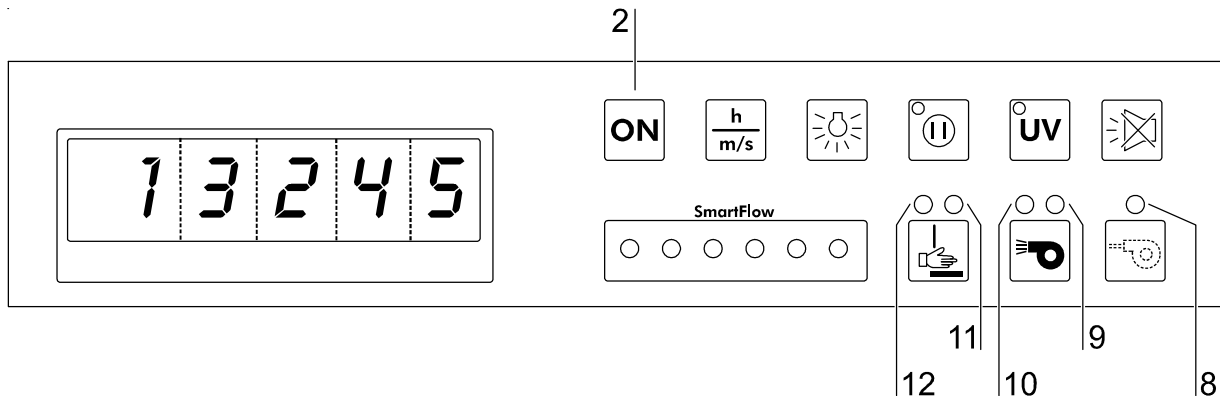

Fig. 14
- Fig. 14:** Switch the device on, keep the **ON** key [2] depressed until: